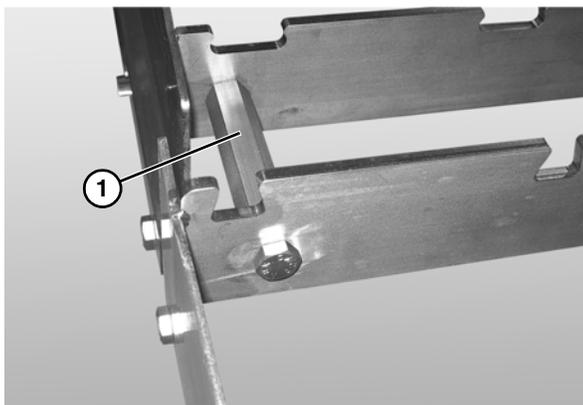

**Figure 6**
1. Locate the section number sequence etched on each section of frame (**Figure 6, item 1**).